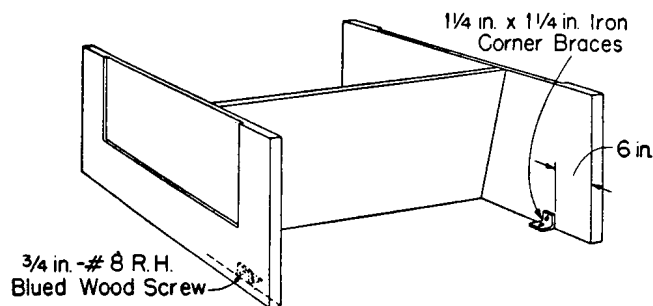
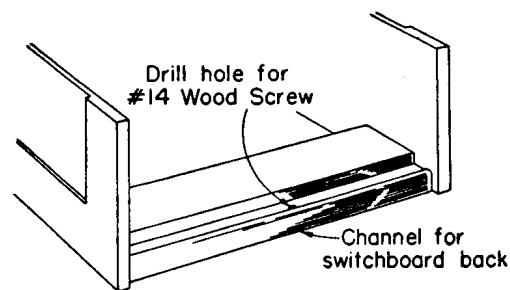

Fig. 1—Front-Fastening Information
Fig. 2—Back-Fastening Information
- 3.09 Fasten to floor where practicable by means of 1¼-in. by 1¼-in. or equivalent iron corner braces, placing one at the base of each end panel on the inside and approximately 6 inches in from the front as shown in Fig. 1. Also fasten rear of PBX to floor with one No. 14 F. H. Steel Wood Screw or equivalent installed in base of channel for PBX backboard panel as shown in Fig. 2.
- 3.13 Fasten each platform to the floor where practicable by means of the four corner angle iron details as shown in Fig. 3 or by 1¼-in. by 1¼-in. iron corner braces installed similar to Fig. 1 in the front and two 1¼-in. by 1¼-in. iron corner braces placed approximately 6 inches from each end of the platform on the rear.